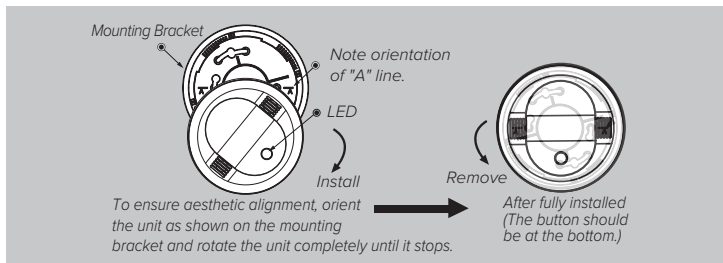

Figure 8-E
- Install the alarm fully on the mounting bracket by rotating the alarm in a clockwise direction (Figure 8-E).